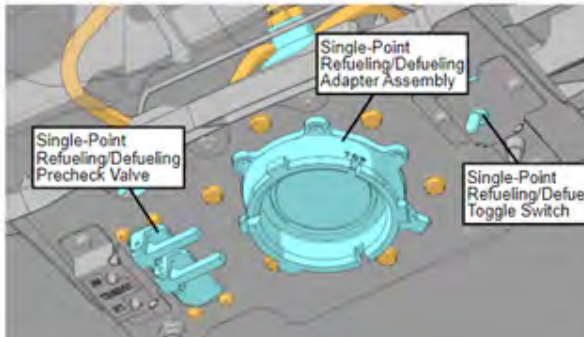

Figure 1
(1) The aircraft incorporates both over-the-wing refueling ports and a single point pressure refueling system as standard equipment. The single point refueling/defueling system is considered the primary means for refueling and defueling the aircraft (Figure 1&2 of this section). However, each fuel tank may be fueled via a gravity filler port located on the outboard side of each main tank (Figure 3 of this section). The fuel fill cap and adapter on each wing provide the means to manually fill each wing tank with fuel. The fuel system is configured to eliminate the need to use fuel anti-icing additives in normal operations however, fuel anti-icing additives are required by Empire Airlines. An electric sensor is used for cockpit indication of a primary fuel filter impending bypass.